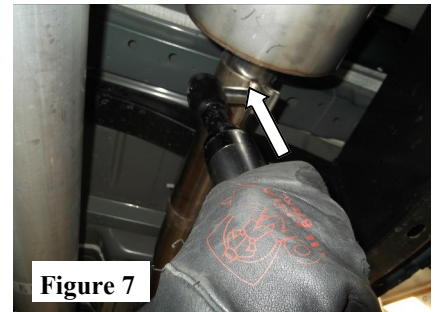

Figure 7
3. Using a muffler stand or an assistant for support, place a clamp on the inlet of the **Muffler Assembly** and insert to the **Front Pipe Assembly (or Extension Pipe Assembly, refer to Step 2)**. (See Fig. 7)